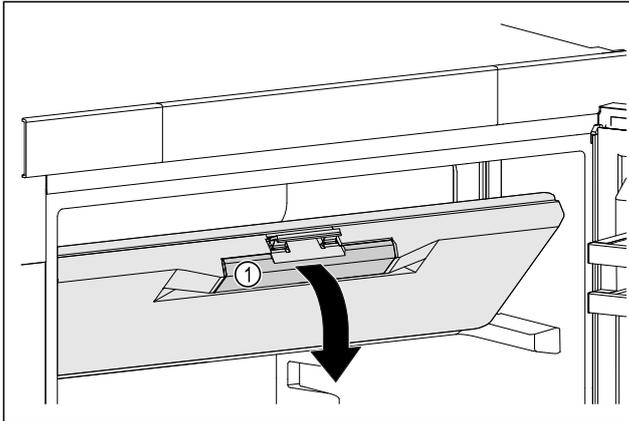

Fig. 46
- ▶ Hold the freezer compartment door by the recessed handle Fig. 46 (1).